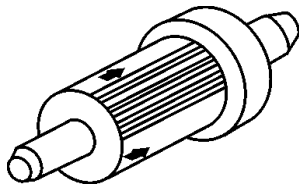

Figure 31. In-Line Fuel Filter
2. Replace the engine in-line fuel filter (Figure 31) every 200 hours. When replacing the filter pay close attention to the orientation of the arrows.